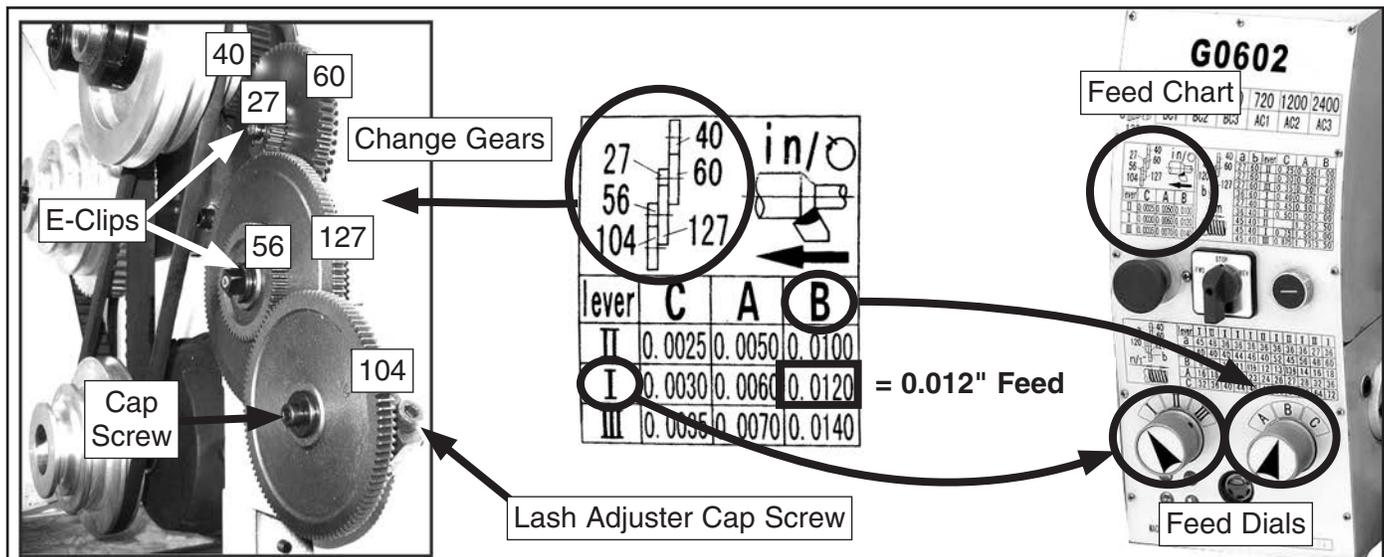

Figure 64. Power feed setup.
2. Turn the feed dials to the numeral and letter indicated by the chart in **Figure 64**.
3. Gather the required change gears, based upon the chart in **Figure 64**.
4. Remove the cap screw that secures the change gear cover, open the cover, then loosen the lash adjuster cap screw (see **Figure 64**) and swing the change gear assembly out of the way.
6. Lubricate the change gears (refer to **Page 55** for detailed instructions) and swap them out in the order shown on the chart in **Figure 64**, then re-install the E-clips and cap screw.
4. Open the change gear cover, loosen the lash adjuster (**Figure 64 on Page 45**) and swing the change gear assembly out of the way.